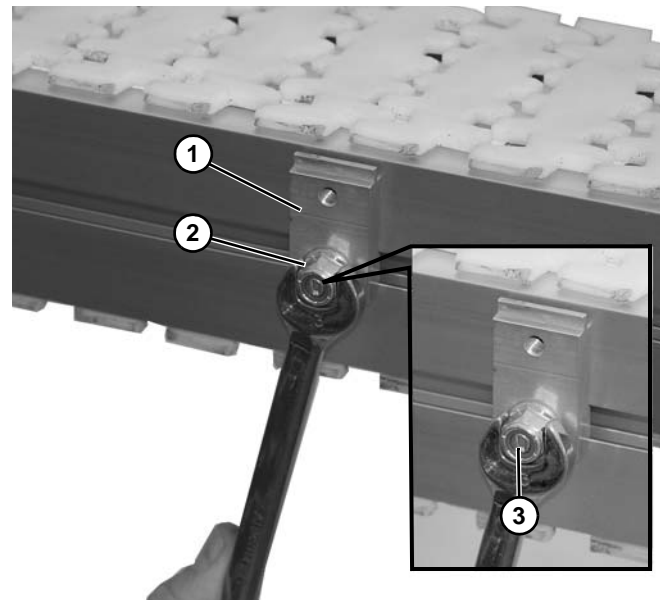

Figure 65
3. Fasten retaining clip (Figure 65, item 1) to conveyor with nut (Figure 65, item 2) on stud.
Be certain that slot (Figure 65, item 3) is close to vertical when finished tightening nut.
4. Tighten nuts (Figure 65, item 2).